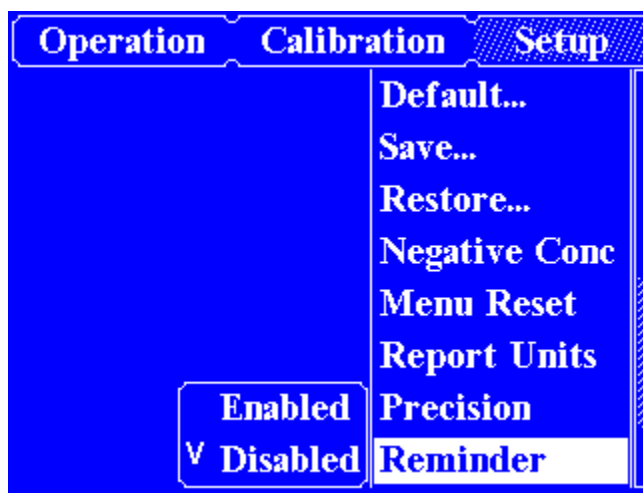

Figure 5-21. Maintenance Reminder Setup Screen
2. Use ← key to high-light an item and press Enter to select it. See figure 5-21.